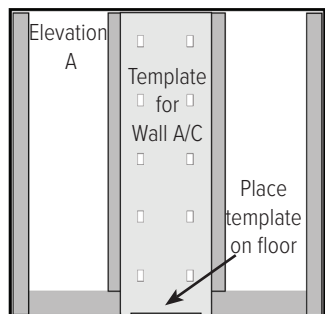

Figure 3.1.2
3.1.2 Place template marked “Elevation A/C Template” on floor as shown in Figure 3.1.2.